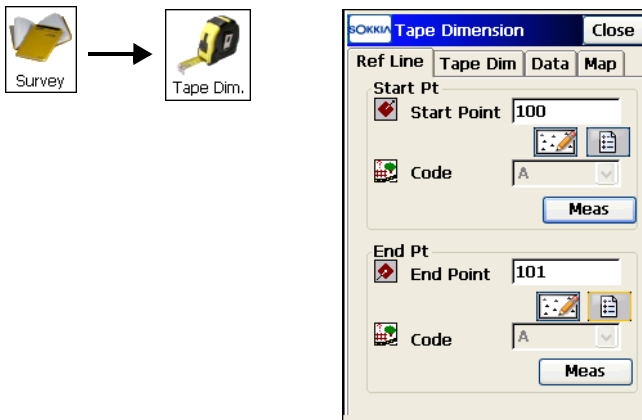

Figure 8-50. Tape Dimension – Ref Line Tab
1. To start working, tap **Survey ▶ Tape Dimension** (Figure 8-50).
2. On the *Ref Line* tab, enter the information about the two points that comprise the reference line: the names and codes (Figure 8-50). To observe the reference line points, tap the **Meas** button in the corresponding fields.